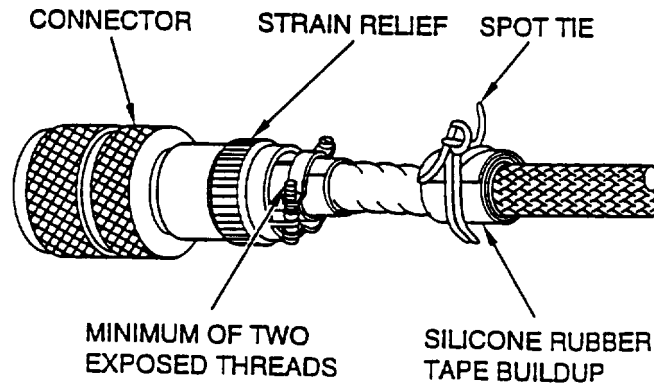

Figure 57. Final Rear Accessory Assembly
m. Continue to wrap tape over exposed wire and onto cable jacket one width of tape (Figure 57).